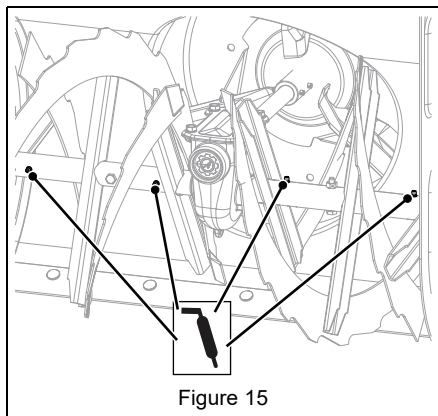

Figure 15
2. Apply grease at the grease zerks. See Figure 15.